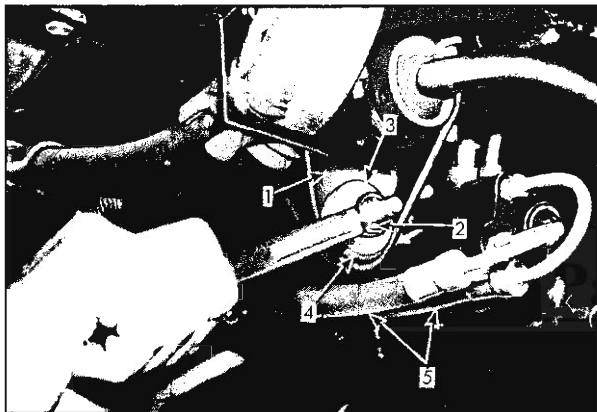

Fig. 88—Power Cylinder Installation
1. Disconnect the two hydraulic lines (5) (fig. 88) connected to the power cylinder and drain fluid into a container. Do not reuse.